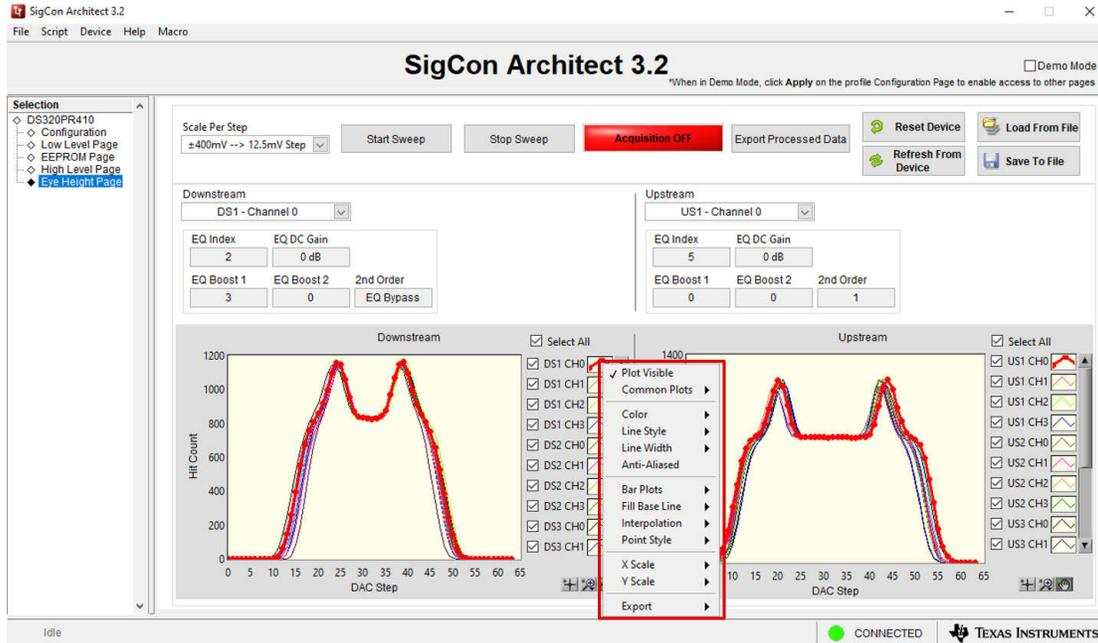

Figure 6-8. Eye Height Page: Customize Plot
- Additionally, the plots can be customized by clicking the plot icon next to each channel. An example customization menu is shown in Figure 6-8.